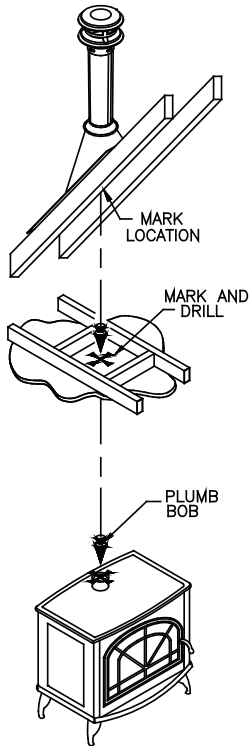

Figure 2
B. Drop a plumb bob to the center of the appliance flue outlet and mark center point on the ceiling (Figure 2). At your marked center point, cut and frame a square hole in the ceiling for installation of the Ceiling Support or